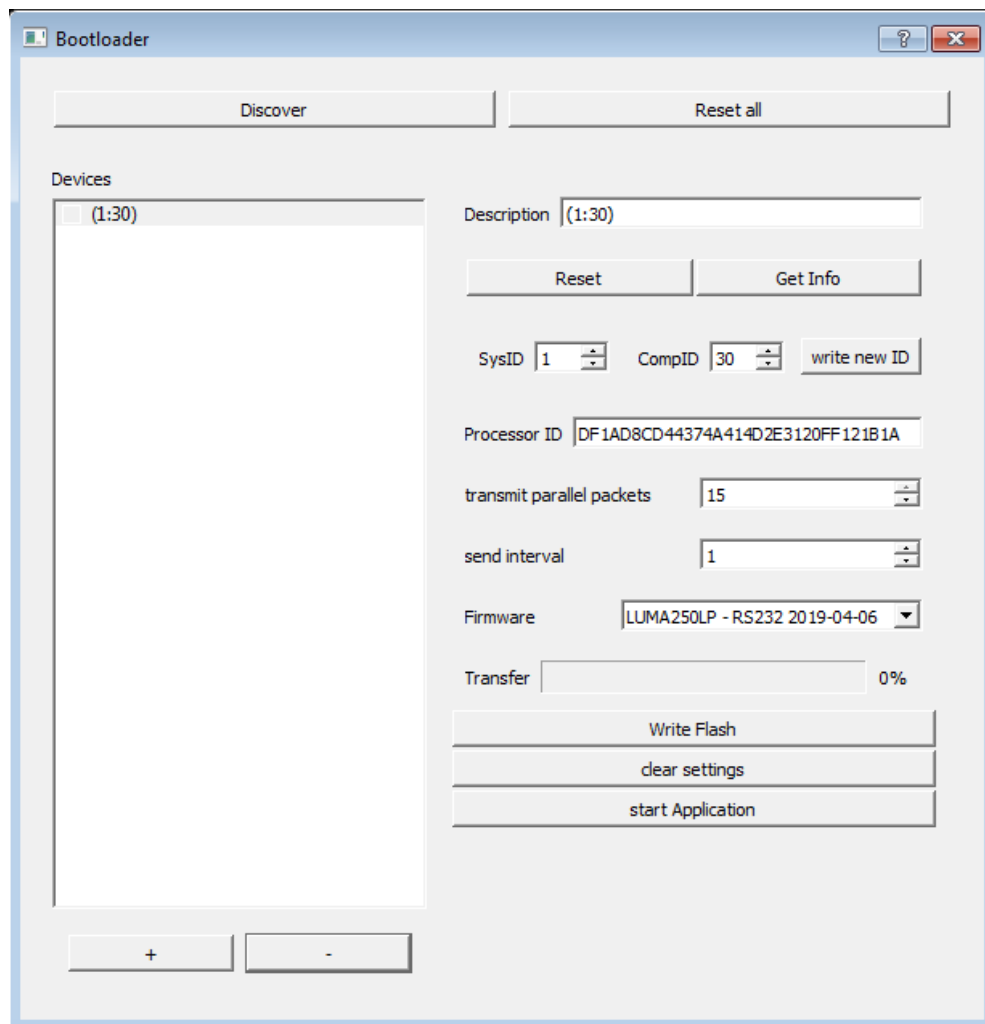

Figure 2: firmware update window
- click "Firmware update". A new dialog opens (see Figure 2).